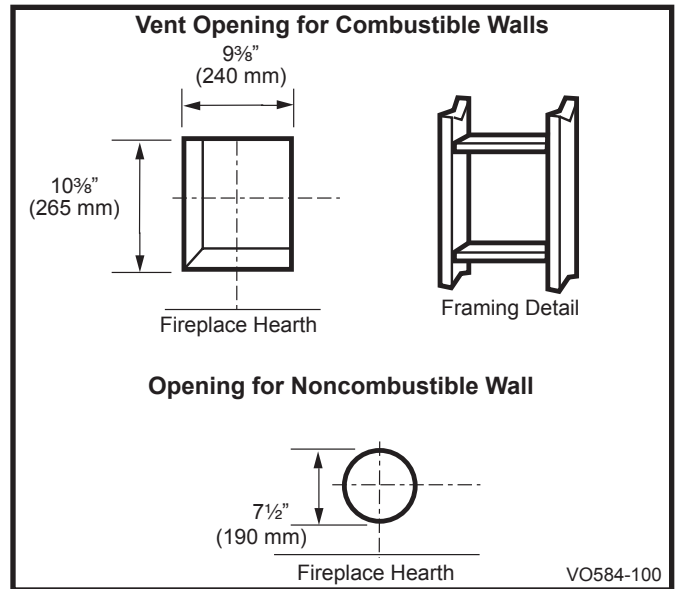

Fig. 22 Locate vent opening on wall.
For combustible walls first frame in opening. (Fig. 22)
**Combustible Walls:** Cut a 103/8"H x 93/8" W (265 mm x 240 mm) hole through the exterior wall and frame as shown. (Fig. 22)